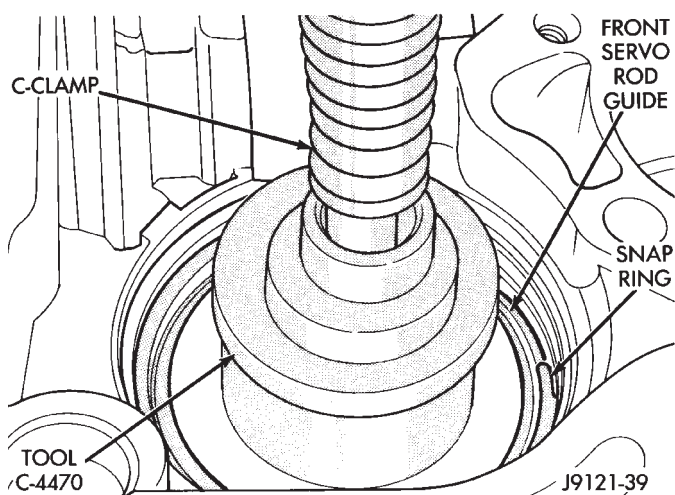

Fig. 35 Removing Front Servo Retaining Snap Ring—46RH
(37) Compress front servo rod guide with C-clamp and Tool C-4470, or Valve Spring Compressor C-3422-B (Fig. 35). Compress guide only enough to permit snap ring removal (about 1/8 in.).
(38) Remove servo piston snap ring (Fig. 35). Unseat one end of ring. Then carefully work removal tool around back of ring until free of ring groove. **Exercise caution when removing snap ring. Servo bore can be scratched or nicked if care is not exercised.**
(39) Remove tools and remove servo piston and spring.
(40) Compress rear servo piston with C-clamp and Tool C-4470, or Valve Spring Compressor C-3422-B